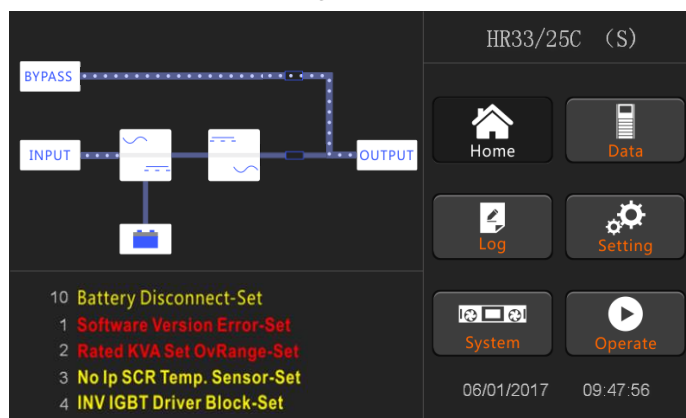

Fig.5-2 Interface of bypass starting
5. After about 30S, the rectifier start is completed, the bypass static switch is on, and the bypass indicator flashes. As shown in Figure 5.2